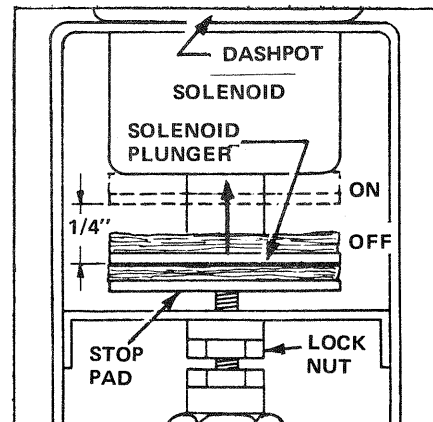

FIGURE 9-19 Pedal Solenoid stroke measurement.
- C. Check to see that the stroke of the Solenoid is 1/4". Stroke is determined by the travel of the Solenoid plunger as shown in FIGURE 9-19.
- C. After removing the Solenoid, plug the Power Cord into the Circuit Interrupter, turn the Interlock and Power Switches ON, and hold the Solenoid upright (hold the upper Dowel piece when doing this). Apply enough pressure downward on the Dowel piece so that the bottom of the Solenoid plunger rests against the Stop Pad (see FIGURE 9-19).
- D. Press the ⑩ PLAY Button and, while Program 9 is running, observe the operation of the Solenoid. If the Solenoid still does not work, refer to Section 10, TROUBLE ANALYSIS, for repair procedures. If the Solenoid does work, proceed to Point E below.
- E. Check the stroke of the Solenoid. The plunger travel should be approximately 1/4" (see FIGURE 9-19 on previous page). If not, loosen the Lock Nut on the Stop Pad Shaft and turn the Stop Pad CLOCKWISE to SHORTEN or COUNTERCLOCKWISE to LENGTHEN the stroke of the Solenoid. See the CAUTION below.